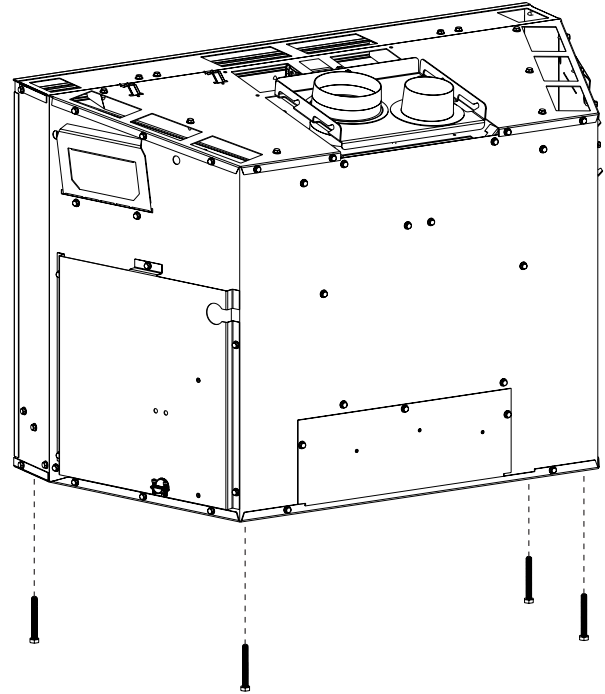

Figure 11
NOTICE: The minimum vertical vent rise is 10 feet and the maximum vertical vent rise is 40 feet. These dimensions are measured from the starting collars of the unit to the end of the last section of vent pipe. **See Figure 11**, page 17.
Figure 11 shows the vent termination cap and system approved for use with these models. Approved vent system terminations are labeled for identification. Use 3-inch diameter, flexible aluminum or stainless steel gas venting for the incoming combustion air. Use 3-inch on (DVCP30), 4-inch on (DVCP34,40) diameter flexible aluminum or stainless steel gas venting for exhaust vent pipe. **No other venting systems or components may be used.** Detailed installation instructions are included with each vent termination kit and should be installed in conjunction with this manual.
7. Install leveling legs. **See Figure 11.**